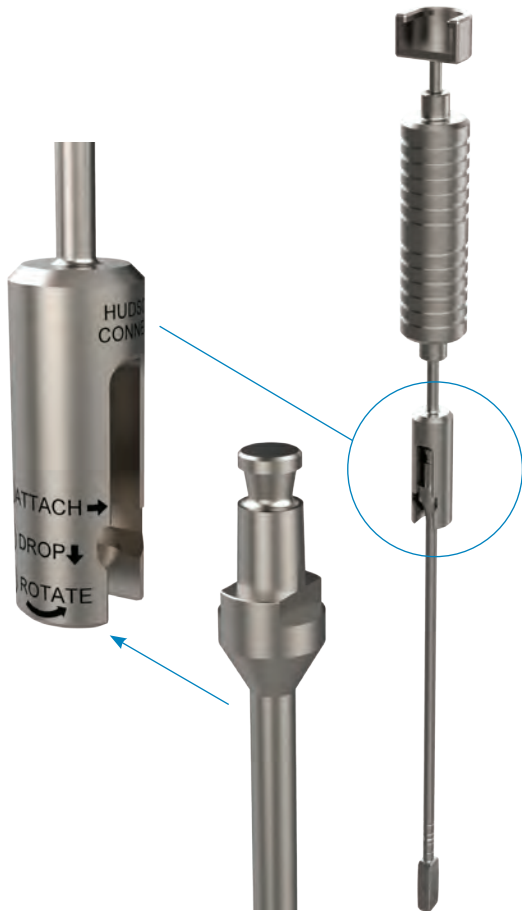

Figure 10
- The slap hammer can be used to facilitate the removal of the trial from the intervertebral disc space. The slap hammer includes laser etched steps (attach, drop and rotate) for attachment of the trial (Figure 10). To use, apply an upward force to the slap hammer. Repeat until trial is removed from the intervertebral disc space.